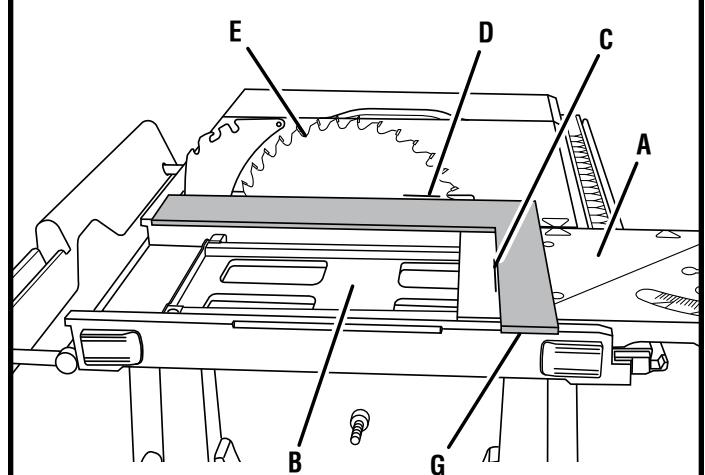

Fig. 32
See Figures 32 - 33.
- Slide miter table (A) to the front of miter base (B) as far as it will go. Place a reference mark (C) near the end of the miter table as shown in figure 32.
- Place a reference mark on one of the blade teeth (D) and rotate the blade (E) so that the reference mark on the blade is at the front of the throat plate.
- Place a framing square (G) against the blade and align with reference mark on miter table. Measure the distance between the blade and the edge of miter table.